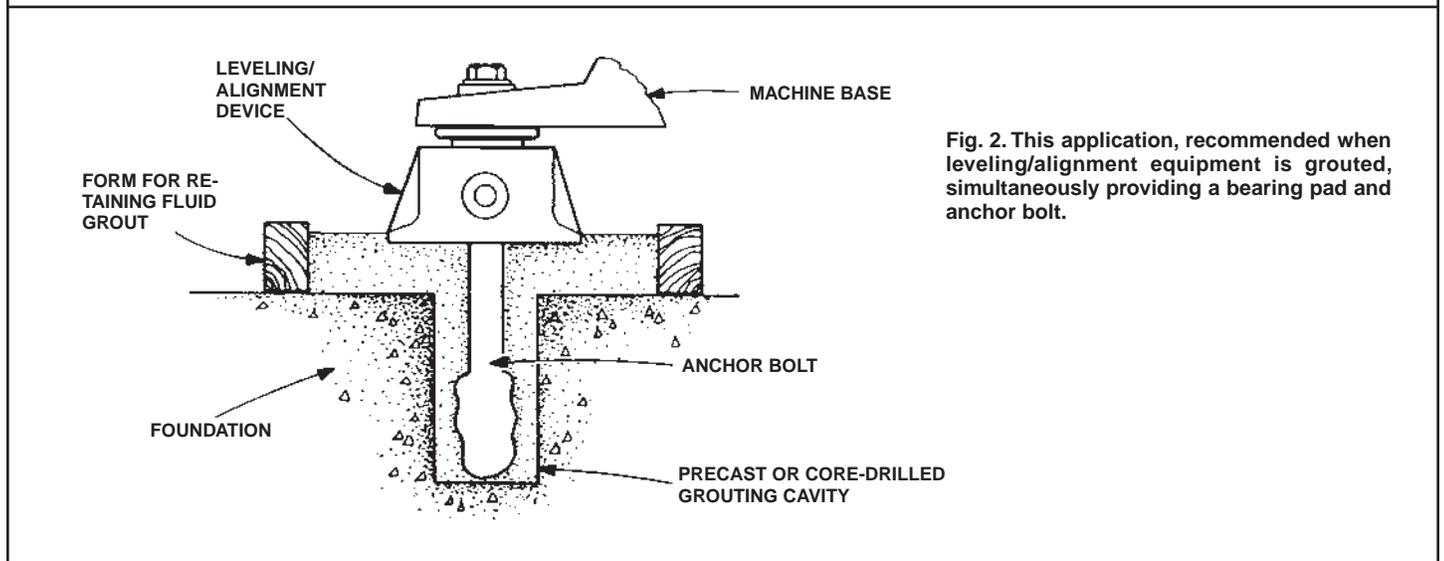

Fig. 2. This application, recommended when leveling/alignment equipment is grouted, simultaneously providing a bearing pad and anchor bolt.
**Application**—It is desirable, in some cases, to grout anchoring/alignment equipment in place, pouring a bearing pad and setting an anchor bolt simultaneously, Fig. 2. The anchor bolt cavity must be completely filled with grout. A filled cavity can be attained by pouring the grout slowly at first to make sure no air is trapped. For unusually deep holes, it may be advisable to use an air bleed tube that is withdrawn when the cavity is full, Fig. 3.